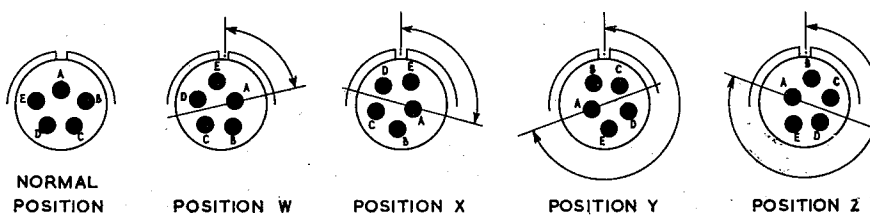

Fig. 3 Insert orientation
6. To avoid cross connection where similar connectors are mounted adjacent to each other, provision is made to assemble the insert in one of a number of positions relative to the normal position as shown in fig. 3. The angle of the various positions of the insert varies with the size of shell and the number of contacts. Full details are given in Table 3.
(see fig. 3 and fig. 5)